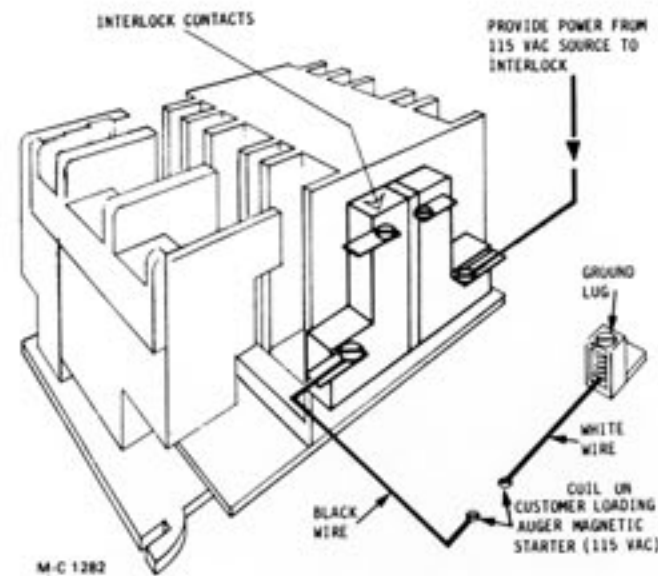

Figure 7 - Level Auger and Unload Auger Magnetic Starter
2. **Loading Auger** - Connect the black wire (line) from the customer supplied magnetic starter 115 volt coil to the dryer level auger magnetic starter auxiliary contact terminal and the white wire (neutral) to ground, see Figure 7.
3. **Take Away Equipment** - Connect the black wire (line) from the customer supplied magnetic starter 115 volt coil to the dryer unload auger magnetic starter auxiliary contact terminal and the white wire (neutral) to ground, see Figure 7.